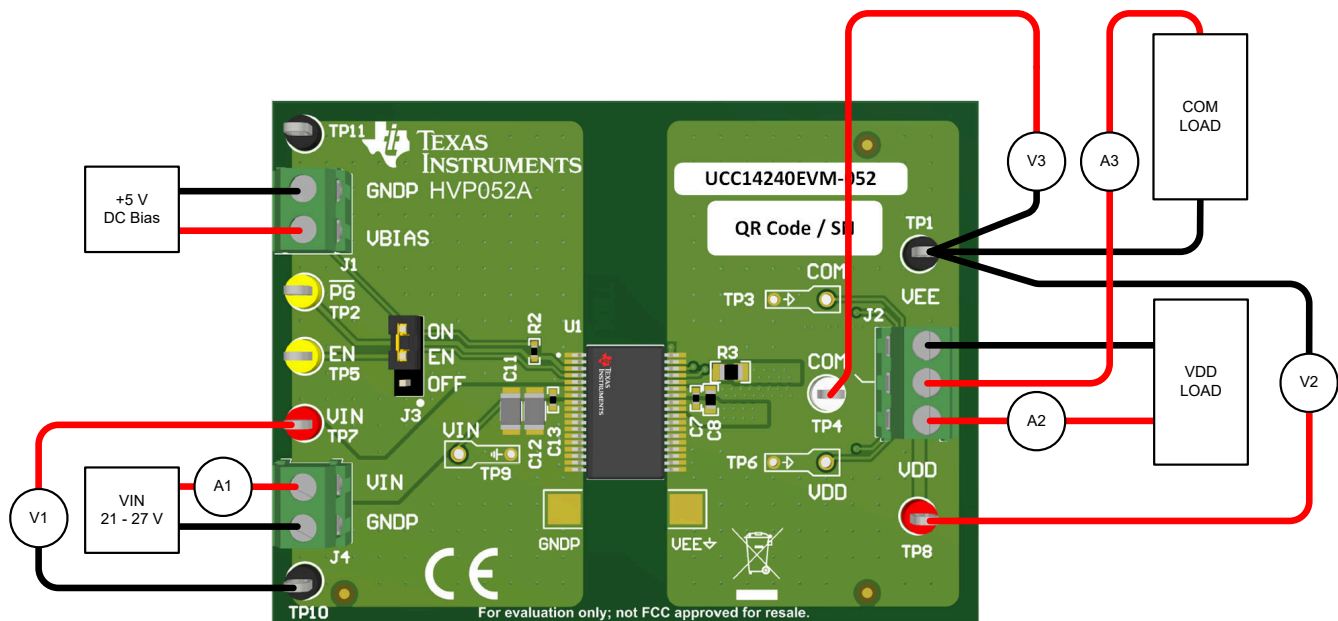

Figure 4-1. Typical Efficiency Measurement Setup
The UCC14240EVM-052 EVM uses screw terminals for quickly connecting to the  $V_{IN}$ ,  $V_{DD}$ , and  $V_{EE}$  pins. Connecting the appropriate ammeters and voltmeters, as shown in Figure 4-1, allows accurate EVM efficiency measurements to be made.
4. Connect a variable load between J2:1 ( $V_{DD}$ ) and J2:3 ( $V_{EE}$ ). If using an electronic load, set to constant current (CC), 80 mA. Leave the load disabled until the EVM is powered.
5. Connect a second load between J2:2 (COM) and J2:3 ( $V_{EE}$ ). If using an electronic load, set to constant current (CC), 10 mA. Leave the load disabled until the EVM is powered. Since the required load is small, a through-hole, 250-mW, 511- $\Omega$  load resistor can be connected between J2:2-3.
6. Some electronic loads are not be able to regulate/stabilize CC when setting in the low mA range. Monitor the input current and load currents by inserting ammeters, A2 and A3, as shown in Figure 4-1. Use a current probe with the oscilloscope to verify the stability of the DC current being regulated by an electronic load.